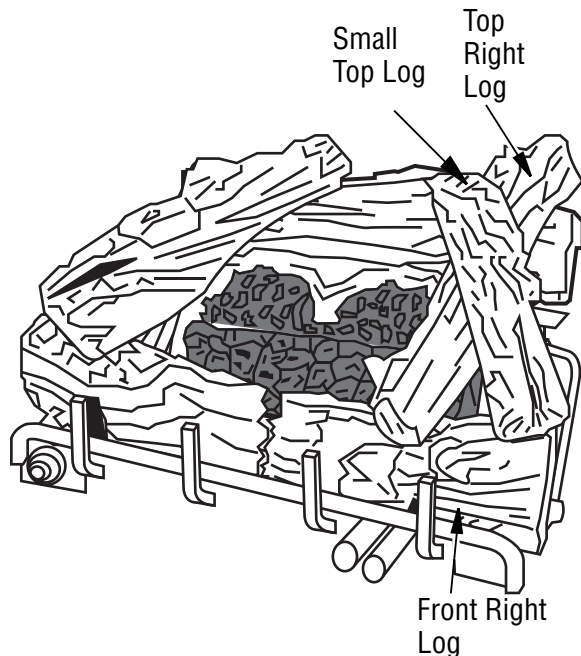

Figure 28 - Installing Log
- Place the small top right log as shown in **Figure 28**. The bottom of the log is shaped to fit onto the recessed areas of the top right log and the front right log. The recessed areas are painted yellow.